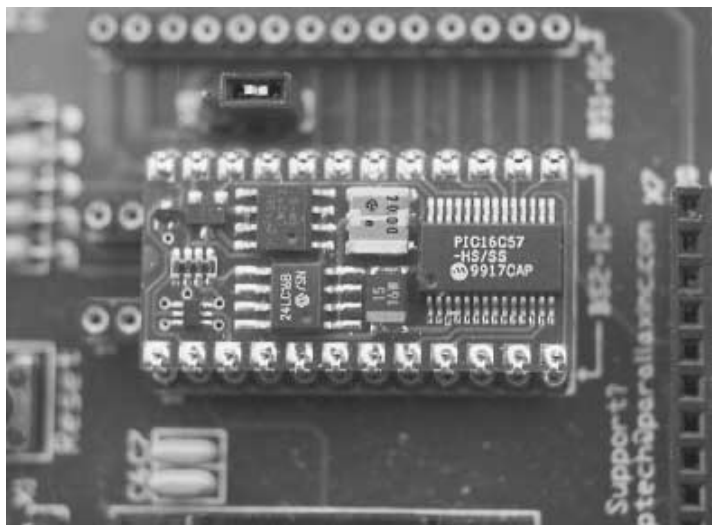

FIGURE 31.2 The Basic Stamp II module, containing microcontroller, voltage regulator, resonator, and EEPROM.
- **BSII Module.** The Basic Stamp module (see Fig. 31.2) contains the actual microcontroller chip as well as other support circuitry. All are mounted on a small printed circuit board that is the same general shape as a 24-pin IC. In fact, the BSII is designed to plug into a 24-pin IC socket. The BSII module contains the microcontroller that holds the PBasic interpreter, a 5-volt regulator, a resonator (required for the microcontroller), and a serial EEPROM chip.